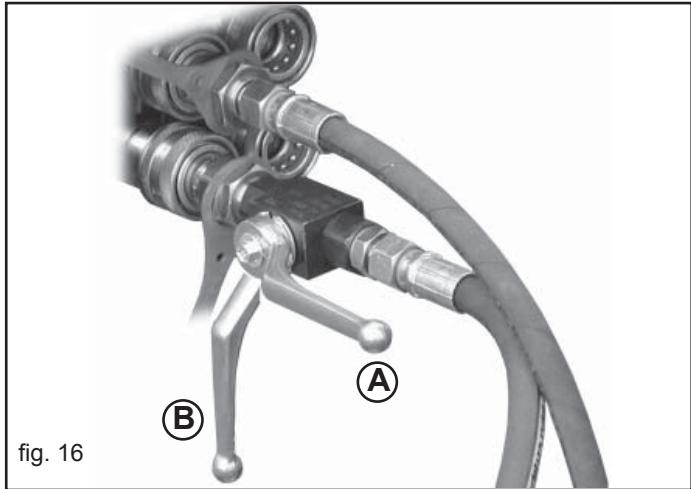

fig. 16
- Place switch (5) to positions (a) / (b), open the system valve (A, Fig. 16) and activate the tractor's hydraulic distributor to fully open the side frame.
- Close the side frame following the instructions given in chapter 4.4.3, and close the system valve (B, Fig. 16).